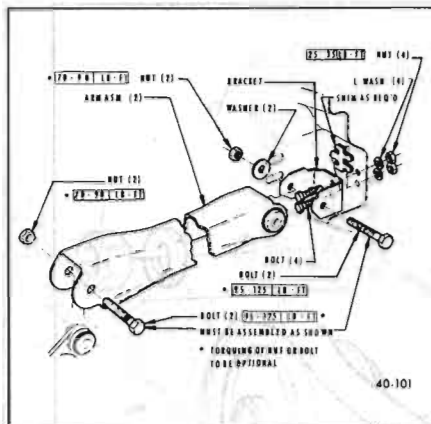

Figure 40-81—Shimming Upper Control Arm
However, the rear universal joint angle can vary and must be adjusted. It is adjusted by rotating the rear axle housing; this is accomplished by lengthening or shortening the upper control arms by means of shimming at the frame bracket ends. See Figure 40-81.
2. Loosen nuts and bolts retaining upper control arm brackets to frame. See Figure 40-81.